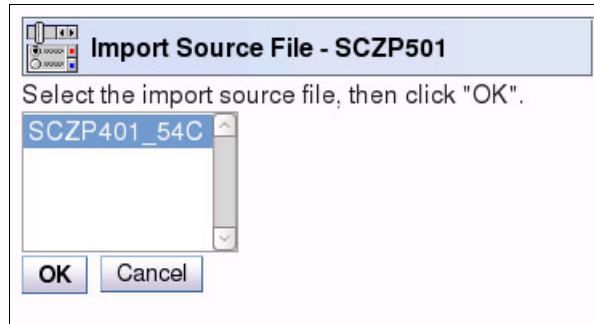

Figure 14-82 OSA Advanced Facilities: import source file selection
7. The Import Source File window opens. Select the name of the source file you want to import. For the example, we select **SCZP401\_54C** as the source file to import (Figure 14-82 on page 695). Click **OK**.